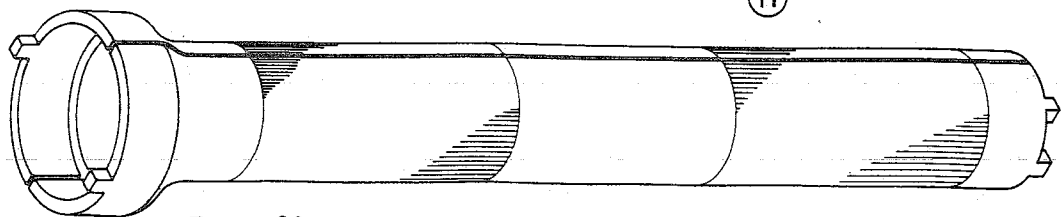

Figure 30
- a. Turn counterclockwise the crank (F) and move the saddle seat to the foremost position of knee.
- b. Remove the two setting pins (H) of the front bearing bracket (G) and take off the four socket HD cap screw (I).
- c. Support the cross feed bearing bracket (G) and turn clockwise the crank (F) so that the bracket will be separated from the knee with a certain distance between them (as shown in Figure 30, the distance must be longer than the length of the adjusting tool).
- d. Insert the larger end of clearance adjusting tool into the knee and turn the locking nut (J) one round anticlockwise. Reverse the adjusting tool and insert the smaller end into the knee. Turn the nut (K) clockwise and lock it up.
- e. Turn clockwise and anticlockwise the crank (F) and measure a clearance of approximately 3-4 graduations (0.06mm-0.08mm or 0.003"-0.004") on the dial. Lock up (J) consequently.
- f. Turning counterclockwise the leadscrew into the knee until the front bearing bracket seat gets in contact with the knee. Insert the two setting pins (H) and lock up tightly the four cap screw (I) of the bearing bracket.
- a. Loosen the lock lever (L).
- c. Use a screwdriver and adjust the gib screw (M) on both sides of saddle seat.
- d. Adjusting skill: If the turning of crank (F) (Vide Figure 30, P. 30) is sensed too loose, loosen slightly the adjusting gib screw on the right side of saddle. Then, lock up the adjusting gib screw on the left side. Turn the crank again to see if it is in good tightness. Otherwise, loosen the left adjusting gib screw and lock the right one tightly. Repeat the same motion until the work table sliding is satisfactory.